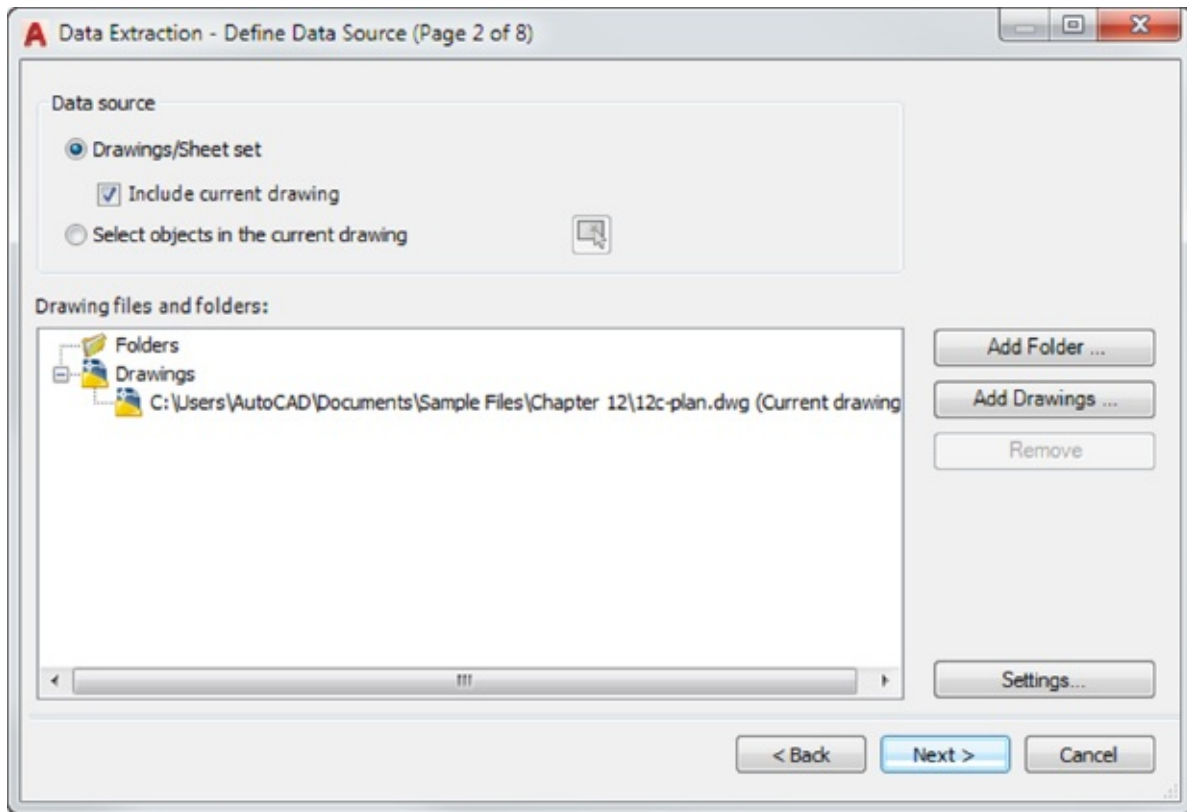

FIGURE 12.15 Defining a data source
2. Click Next to open the Save Data Extraction As dialog box. This dialog box lets you save the data-extraction settings that you're about to set up in a file with the .dxe filename extension. Enter a name, pick a location for your file, and then click Save. The Define Data Source page opens (see Figure 12.15).